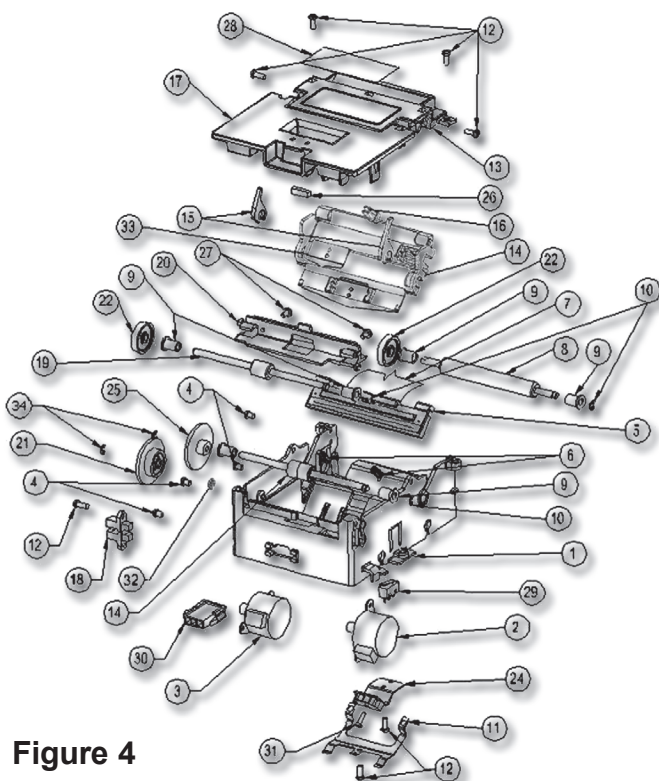

Figure 4
In Figure 4, we see a drawing a mechanical unit of printer, which helps us with the orientation of the
A) After connecting the printer to 24VDC (chassis fully insert and printer must have a closed door “Ticket Cover” item 17, fig. 4) should be after a few seconds to hear the sound of “feed” motor (item 2, fig. 4) and three beeps.
If it does not, it is probably power failure, or failed control PCB - see section 3.1, or damaged microswitch “Cover Open” (item 29, fig. 4) - see sec-
B) Wait five seconds, put the stack of tickets into the printer, take the first ticket and insert it into the printer (black mark on the lower end of the ticket into the printer) - should start and run “feed” motor, ticket to enter in mechanic unit and “feed” motor stop. If the printer does not respond to the insertion of the ticket, is probably dirty or damaged optic sensor “Top of Form” (item 16, fig. 4) - see section 1.1, otherwise go to step C.
If the printer does not respond to holding the “FEED” button (ticket does not enter into the mechanical unit), probably is also dirty or damaged optic sensor “Top of Form” (item 16, fig.4), or damaged optic sensor “Burst” (item 24, fig.4) - see point 1.1 or 1.2, or is damaged itself the “FEED” button.
If the print quality is poor, is probably jammed thermal head “Heatsink Assembly” or heavily polluted (item 5, fig.4) - see point 2.0.
If the printer prints the ticket, but not pops out, probably jammed “Transport” motor (mostly heavy dirt wheels) (item 3, fig. 4) - see point 2.0.
dirty optic sensor “Ticket Taken” (item 18, fig.4) - see point 1.5, or is zero stock of paper.
This procedure cleaning the slit optical sensor “Ticket Taken” (item 18, fig.4) and sensor “Top of Form” (item 16, fig.4).
1.3) Microswitch "Cover Open". This microswitch senses the position of printer doors "Ticket Cover" item 17, Fig.4. To the control PCB is connected with 2-pin connector CN4. In the event of a fault not possible writing new settings and uploading new firmware into the printer when the microswitch contacts are perma-